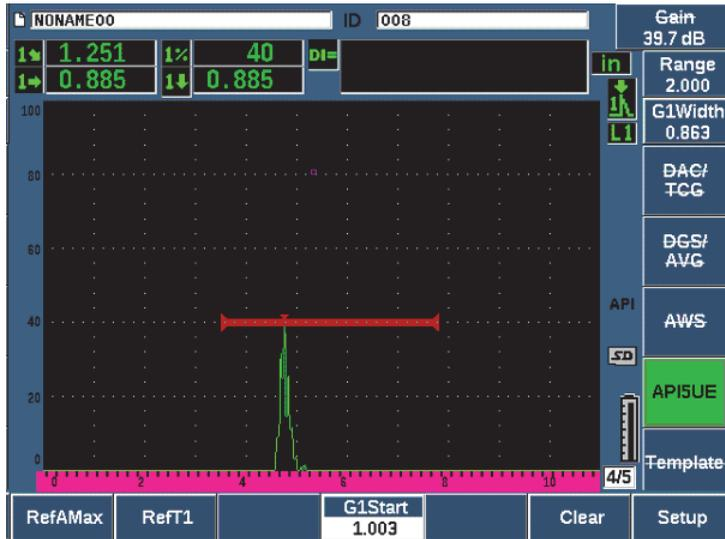

Figure 11-26 Storing the T_1 point
8. Press **RefT1** (P2) to collect the 6 dB drop position of the leading peak and assign this value as T_1 (see Figure 11-26 on page 263).